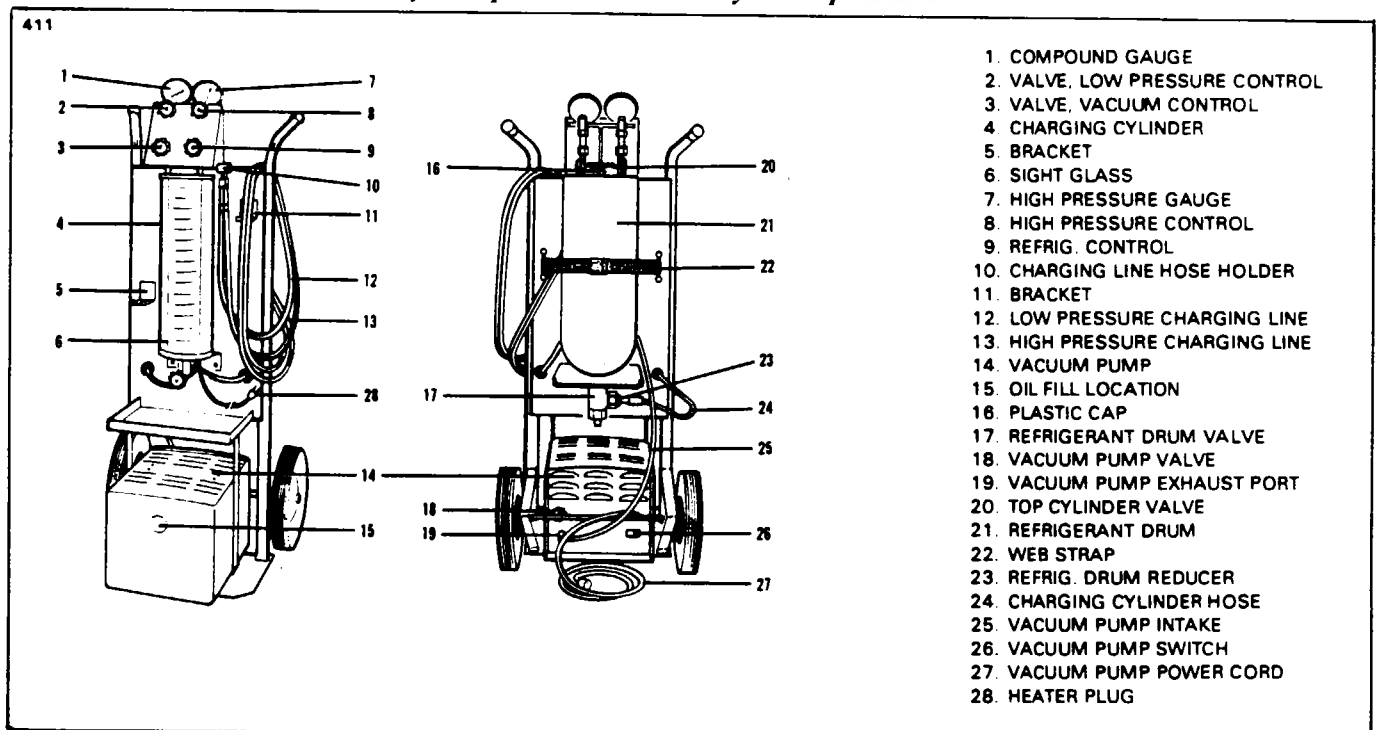

Figure 21-20. Charging Stand
Applies to Kent Moore J8393-02 or similar charging station. Use Refrigerant 12. (Refer to Figure 21-20.)
- C. Remove exhaust port cap and open valve on pump. Turn on pump and open the low and high pressure and vacuum control valves on the charging station. (Refer to Figure 21-20.)